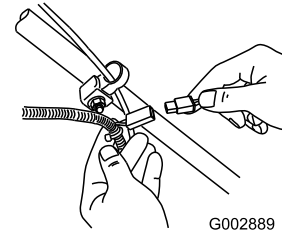

Figure 41
1. Connect the charger to the mower wire harness located below the ignition key (Figure 41).